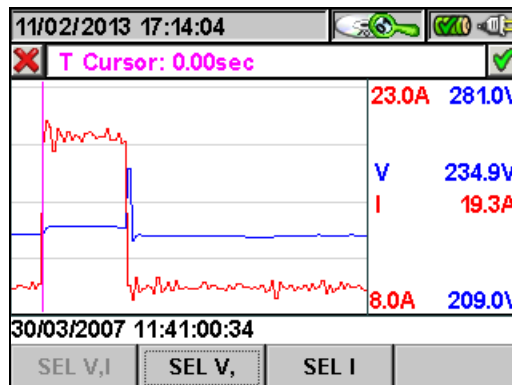

Fig. 128: Inrush currents graph
- The **F3** key (or the **GRAPH** item on the display) accesses the page which shows the graph of the selected Inrush Current (see Fig. 128)